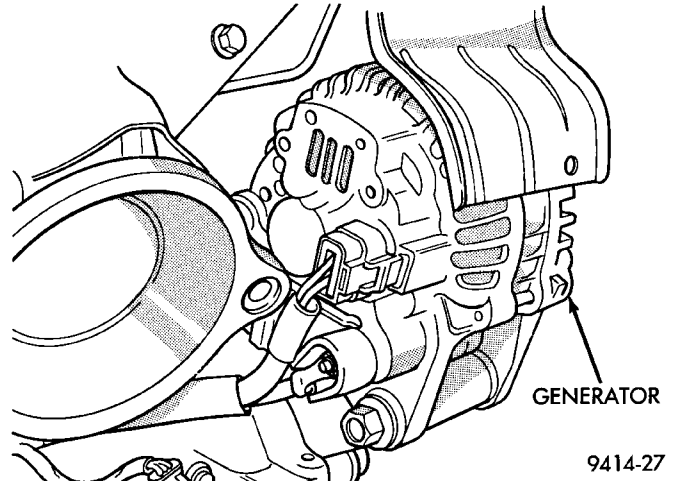

Fig. 68 Generator
(17) Inspect the electrical connections at the generator (Fig. 68). Check the generator belt for glazing or damage.